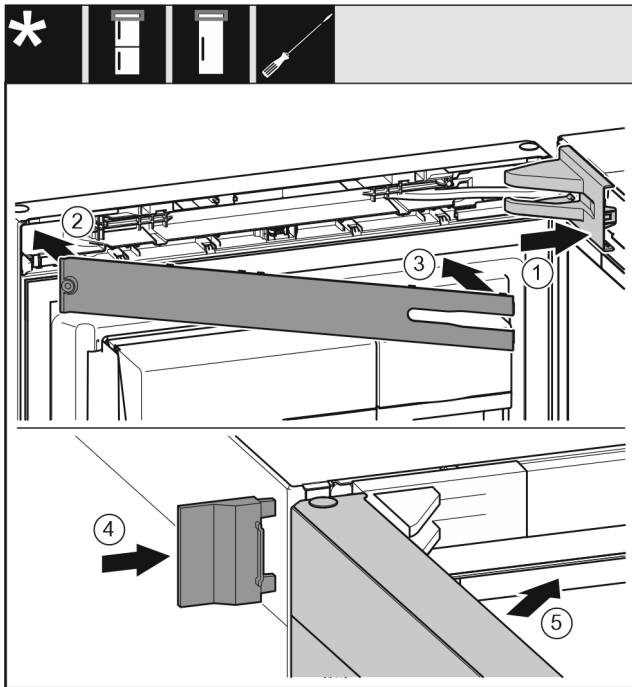

Fig. 24
- Position the bearing bracket cover and engage it. If necessary push it apart carefully. Fig. 24 (1)
- Place on the panel. Fig. 24 (2)
- Swing in the panel and latch it into place. Fig. 24 (3)
- Slide on the outer cover. Fig. 24 (4)
- Close the upper door. Fig. 24 (5)